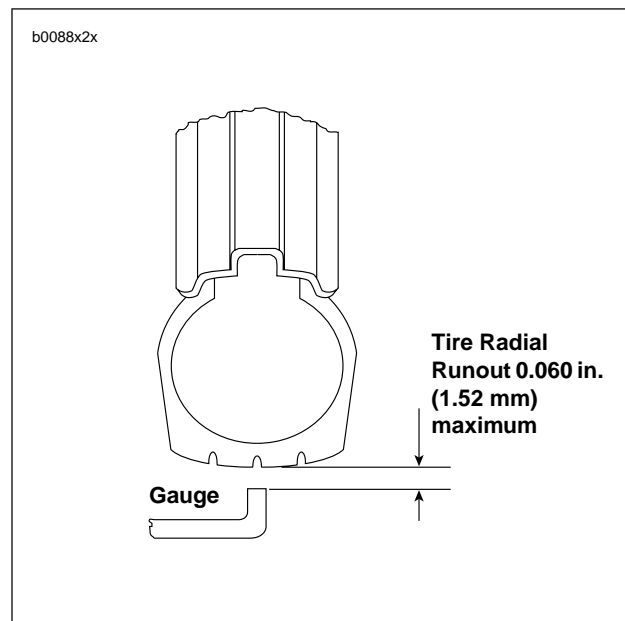

Figure 2-15. Checking Tire Radial Runout
1. See Figure 2-15. Turn wheel on axle and measure tread radial runout.